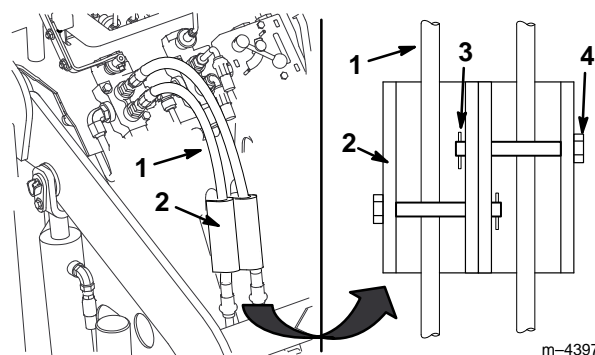

Figure 12
7. Install the cylinder locks over the hydraulic hoses and secure them with the clevis pins and cotter pins (Fig. 12).